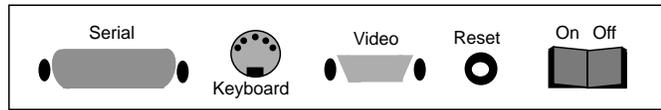
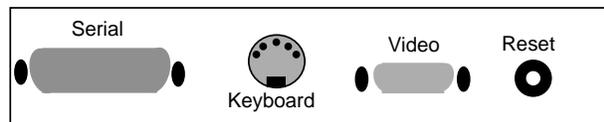
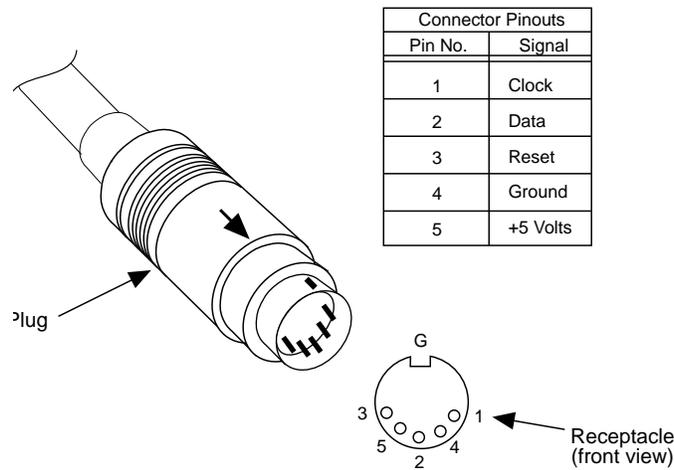

Figure 3-1. Video/Keyboard Connectors On the Front User-Interface Panel
Figure 3-2. Video/Keyboard Connectors On the Rear User-Interface Panel
Figure 3-3. Pinout Connections for Keyboard - Circular 5-pin DIN
1. Plug the signal cable into the video connector located on the front user interface panel to the left of the floppy disk drive (Figure 3-1) or the rear user-interface panel directly beneath the fan panel access door (Figure 3-2).
There is a 5-pin female DIN connector receptacle on both the front (Figure 3-1) and rear (Figure 3-2) user interface panels of the MAP/100C. Use this connector for all permanent keyboard connections to the MAP/100C. Figure 3-3 shows the pinouts for both of these connector receptacles.